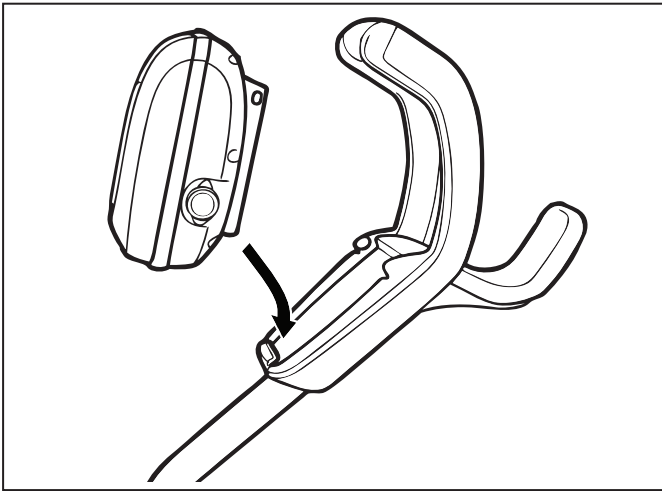

Figure 8. Align Control Box with Caddy Hook
1. Align the bottom of the control box with the notch at bottom of the control box hook on the caddy (Figure 8).